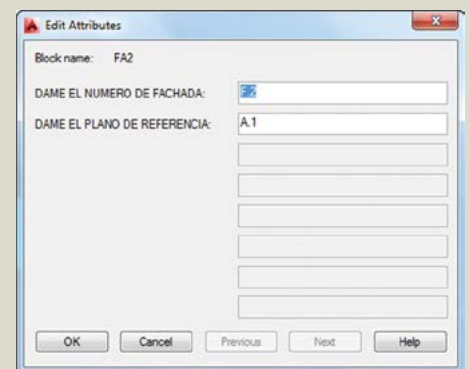

Figure 3. Attributes now display in a dialog box by default.
Figure 3. Various views of the negative of the oxygen analyzer block. To generate these views, I put the negative into a glass copy of the main block and rendered the whole thing.
10. ATTDIA change. When inserting a block with attributes, the default method of displaying attribute prompts is on the Command line. The new method displays the attributes in a friendly dialog box; ATTDIA is now set to 1 by default (**figure 3**).